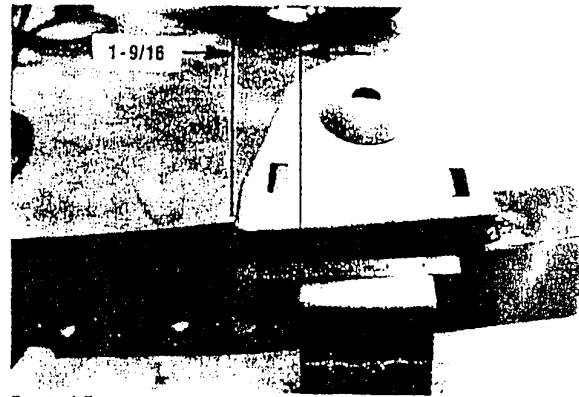

Figure 6
9. Next are the spring towers. They sit on top of the frame rails, and are located as shown in Figure 6, (1-9/16" forward of the crossmember measuring from the front of the crossmember to the front of the spring tower). Clamp in place, double check your dimensions, then weld all around, including the gusset flanges on the sides of the rails. For added strength, you can also weld the inside of the gusset flanges.